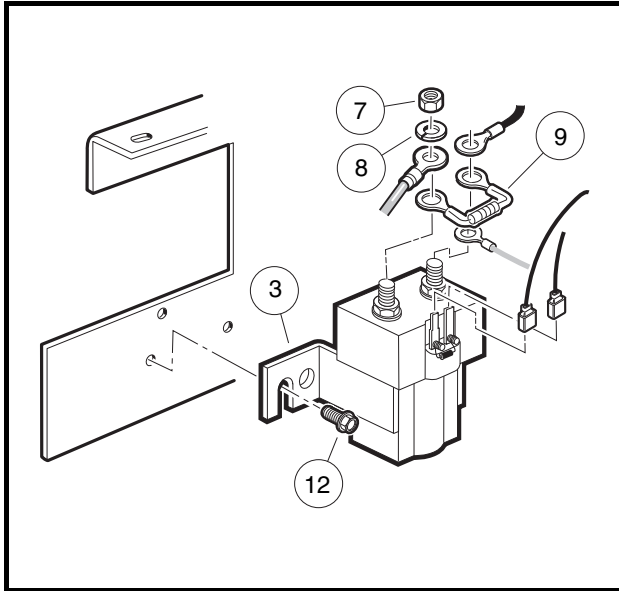
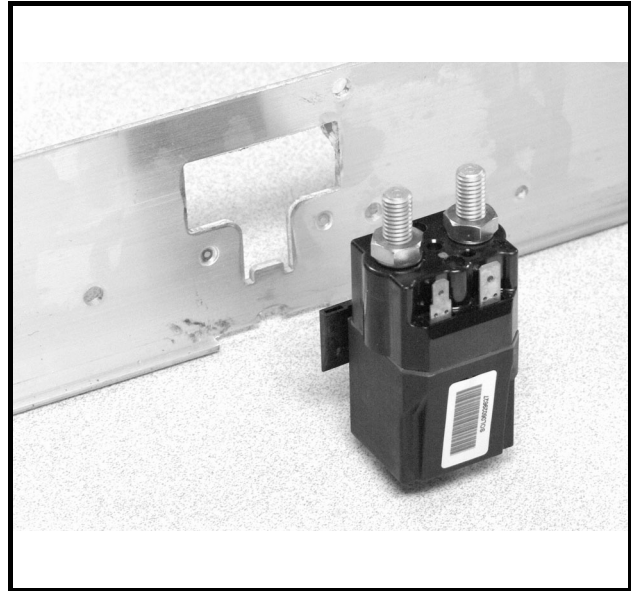

Figure 13-7 Screw-Mounted Solenoid
Figure 13-8 Slot-Mounted Solenoid
4. Screw-mounted solenoid (**Figure 13-7, Page 13-8**).
- 4.2. Lift the solenoid (3) up and off of the component mounting plate.
5. Slot-mounted solenoid (**Figure 13-8, Page 13-8**).
1. Mount solenoid onto component mounting plate with screws (12) or by engaging slot (**Figure 13-7, Page 13-8**) (**Figure 13-8, Page 13-8**).
2. Tighten screws (12) to 60 in-lb (6.8 N·m).
3. Using the wiring diagram, install the wires, resistor (9), washers (8), and nuts (7) onto the large mounting posts. Tighten nuts to 77 in-lb (8.7 N·m). **See Wiring Diagrams, Section 11, Page 11-2.**
4. Install the blue/white and light blue wires onto the small terminals of the solenoid (**Figure 13-7, Page 13-8**).